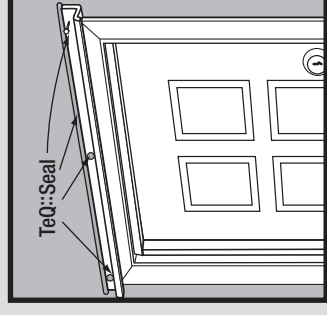

FIGURE 17
- 10.4.1 Apply sealant over nail heads and across the top of the up turned leg of the drip mold to seal against exterior wall. (figure 17)